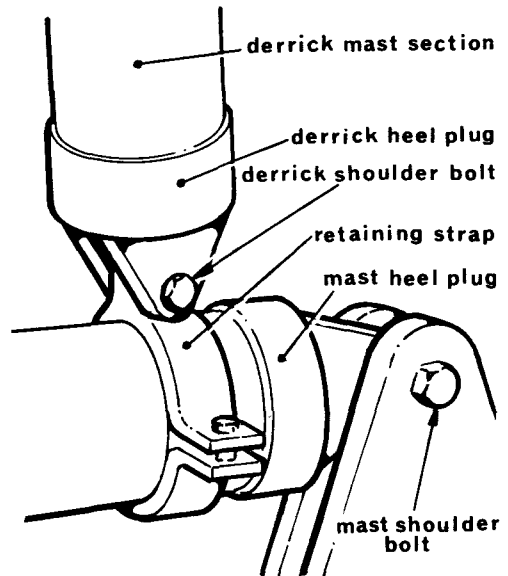

Fig 14.20 Derrick heel attachment
- **Shoulder bolt.** This bolt (Fig 14.20) is an 8mm (5⁄16in) diameter shouldered bolt used in conjunction with a 5⁄16inch BSW nut to secure the mast heel plug to the mast base assembly. The bolt acts as a pivot for the bottom of the mast during erection operations.
The antenna mast erector consists of a derrick, assembled from three mast sections, a derrick head cap, heel plug assembly and derrick retaining straps. The derrick head cap is designed with the necessary lugs for securing the shackles for attaching the derrick side guys, the mast guys and the moving block of the erector tackle. The assembled derrick is attached to the main mast by means of retaining straps, to which the derrick heel plug is secured by the derrick shoulder bolt. The retaining straps are bolted together round the swaged portion of the bottom mast section, just above the mast heel plug (Fig 14.20).
- Using the derrick shoulder bolt and $\frac{5}{8}$ inch BSW nut, secure the derrick heel plug assembly to the derrick retaining straps (Fig 14.20), with the heel plug resting in the required direction for the assembly of the derrick mast sections. Assemble three mast sections with the first section fitted over the derrick heel plug and the derrick head cap fitted to the third section with the shackles in the upper or mast side of the derrick. On completion of the assembly, the angle between the derrick and the mast should be slightly less than a right-angle.